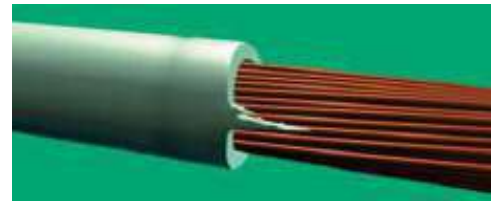

Figure 233
2. Any uneven, ragged pieces (frays, tails, tags) (Figure 233) are no greater than 50% of the wire diameter or 0.039 inch (1 mm), whichever is greater.